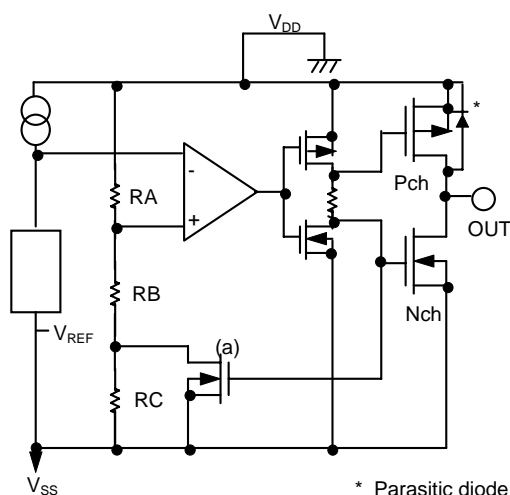
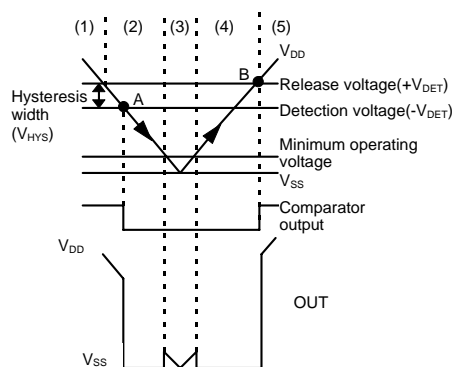

Figure 13
Figure 14
Hysteresis width is the voltage difference between a device's detection voltage and its release voltage (see Figure 14. $V_{HYS}=B-A$). By giving a device hysteresis, erroneous toggling of the output due to noise at the input is avoided.
- (1) When power supply voltage V_{DD} is greater than the release voltage $+V_{DET}$, the Nch transistor is OFF and the Pch transistor ON, causing V_{DD} (high) to appear at the output. With the Nch transistor of Figure 13 (a) off, the comparator input voltage is $(RB+RC)/(RA+RB+RC) \times V_{DD}$.
- (2) When power supply voltage V_{DD} goes below $+V_{DET}$, the output continues to maintain the power supply voltage level, as long as V_{DD} remains above the detection voltage $-V_{DET}$. When V_{DD} does fall below $-V_{DET}$ (A in Figure 14), the Nch transistor goes ON, the Pch transistor goes OFF, and V_{SS} appears at the output. With the Nch transistor of Figure 13 (a) ON, the comparator input voltage is $RB/(RA+RB) \times V_{DD}$.
- (3) When V_{DD} falls below the minimum operating voltage, the output becomes undefined. However, output will revert to V_{DD} if a pull-up has been employed.
- (4) V_{SS} will again be output when V_{DD} rises above the minimum operating voltage. V_{SS} will continue to be output even when V_{DD} surpasses $-V_{DET}$, as long as it does not exceed the release voltage $+V_{DET}$.
- (5) When V_{DD} rises above $+V_{DET}$ (B in Figure 14), the Nch transistor goes OFF, the Pch transistor goes ON, and V_{DD} appears at the output.